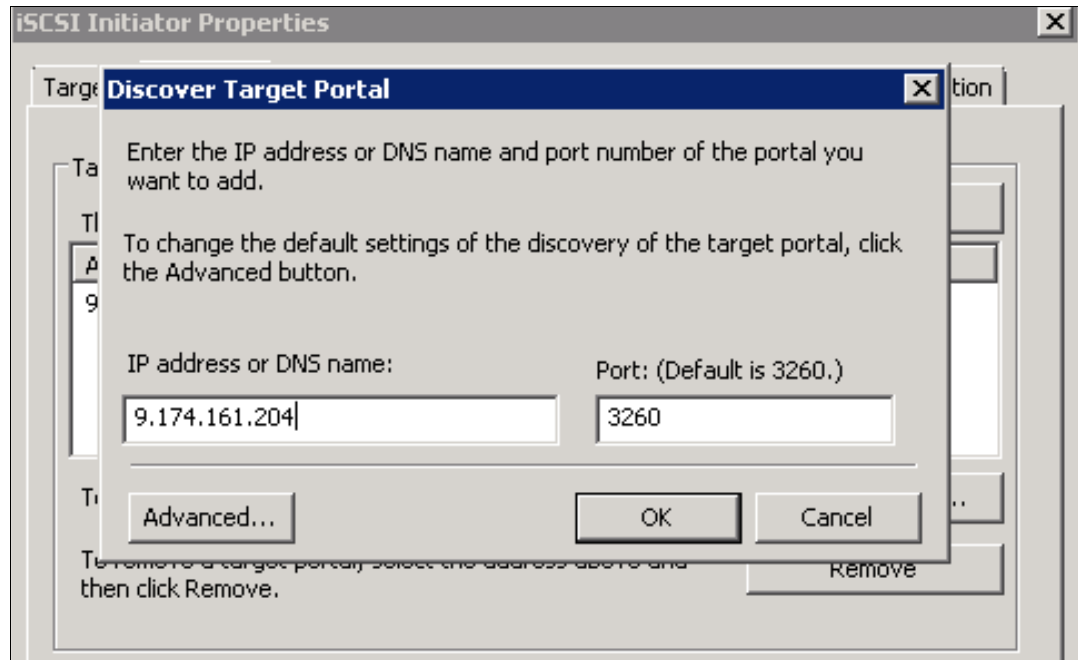

Figure 5-52 Discover Target Portal window
5. Click **Discover Portal...**, enter the IP address of another IBM Storwize V5000 iSCSI port (as shown in Figure 5-52), and click **OK**.